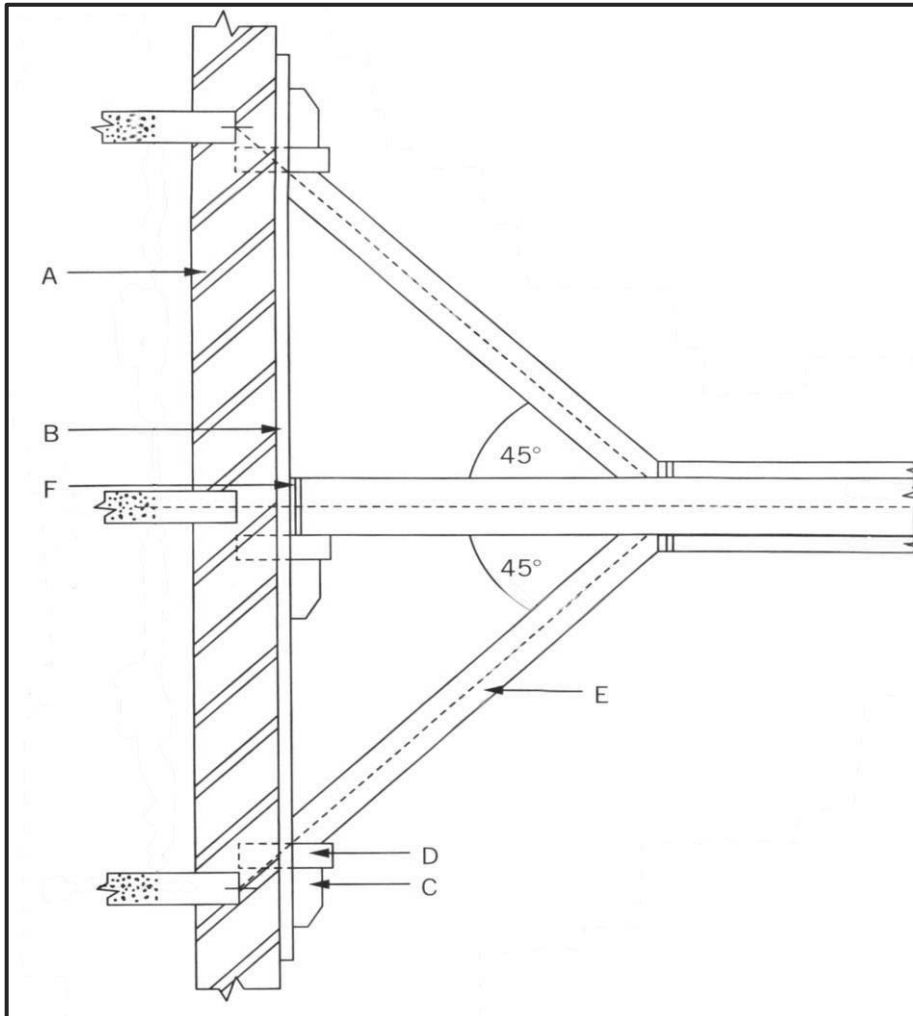

FIGURE 3.3
3.3 **FIGURE 3.3** is an example of shoring. Study the drawing and answer the questions that follow.